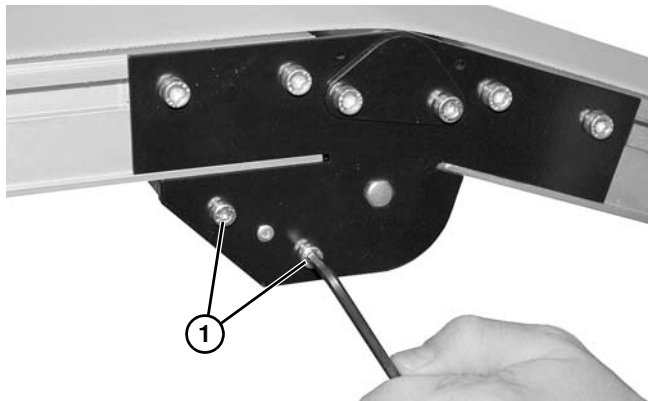

Figure 132
1. Remove screws (**Figure 132, item 1**) on both sides of conveyor.